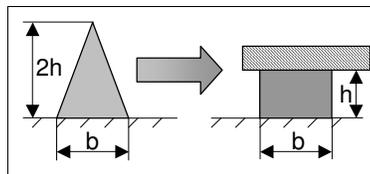

Figure 1: Recommended bead configuration
**Unipacks:** Place unipac in the application gun and snip off the closure clip. Cut off the tip of the nozzle to joint size. To ensure uniform thickness of adhesive when compressed, we recommend applying the adhesive in the form of a triangular bead (see Figure 1). Use a hand or powered caulking gun. If Sikaflex®-252 is used as an adhesive, assemble within 15 minutes. Make sure surfaces are frost free. Do not apply at temperatures below 50°F (10°C) or above 95°F (35°C). The optimum temperature for substrate and adhesive is between 60°F (15°C) and 77°F (25°C). For advice on selecting and setting up a suitable pump system, as well as on the techniques of pump operated application, please contact the Sika Industry at [tsmh@us.sika.com](mailto:tsmh@us.sika.com).